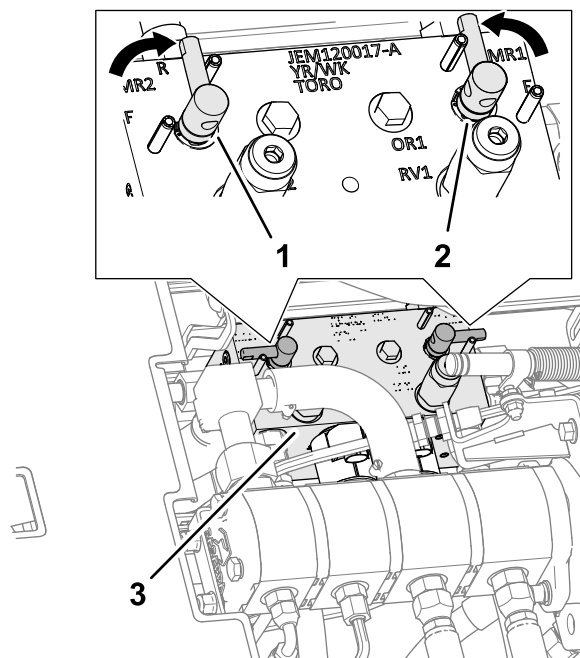

Figure 152
4. Unlock and raise the seat to expose the mower manifold (Figure 152).
5. Move the backlap levers to the R (backlap) position (Figure 152).